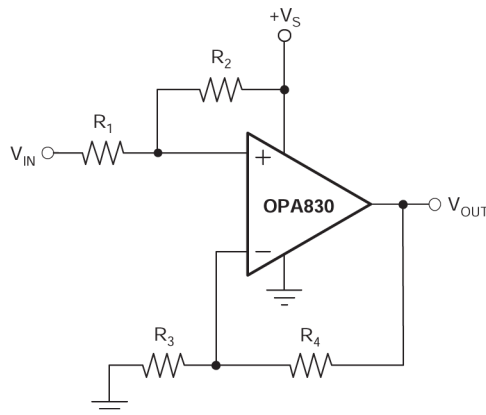
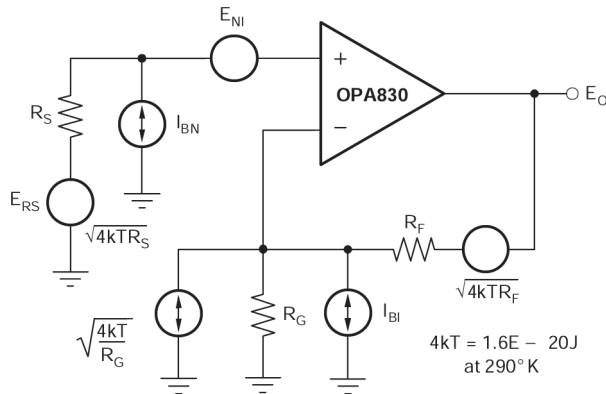

Figure 8-4. DC Level-Shifting
Figure 8-6. Noise Analysis Model
Figure 8-4 shows a dc-coupled non inverting amplifier that level-shifts the input up to accommodate the desired output voltage range. Given the desired signal gain (G), and the amount V_{OUT} needs to be shifted up (ΔV_{OUT}) when V_{IN} is at the center of the range, the following equations give the resistor values that produce the desired performance. Assume that R_4 is between 200 Ω and 1.5k Ω .
High slew rate, unity-gain stable, voltage-feedback op amps usually achieve a slew rate at the expense of a higher input noise voltage. The 9.2nV/√Hz input voltage noise for the OPA830, however, is much lower than comparable amplifiers. The input-referred voltage noise and the two input-referred current noise terms (2.8pA/√Hz) combine to give low output noise under a wide variety of operating conditions. Figure 8-6 shows the op amp noise analysis model with all the noise terms included. In this model, all noise terms are taken to be noise voltage or current density terms in either nV/√Hz or pA/√Hz.
The total output spot noise voltage can be computed as the square root of the sum of all squared output noise voltage contributors. Figure 8-4 shows the general form for the output noise voltage using the terms shown in Figure 8-6: